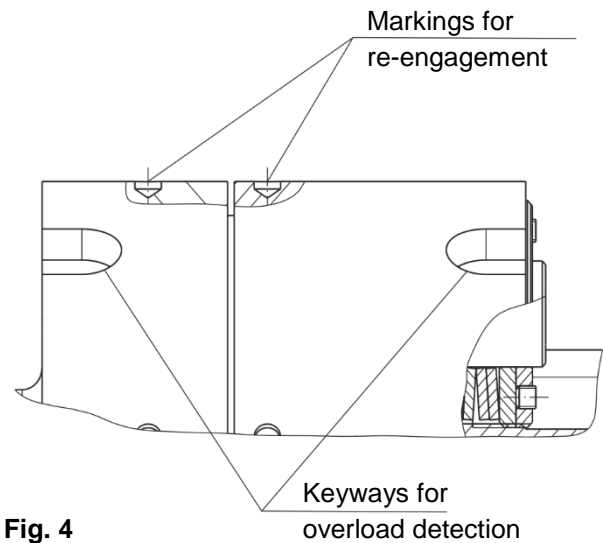

Fig. 4
The overload - i.e. the relative movement between the hub (1) and the pressure flange (5) - can be detected using the keyways of the two components (each 2 x 180° on the circumference, see Fig. 4 on page 9) which are aligned in operating condition, e. g. by means of speed monitors or optoelectronic sensors.
## Re-engagement (Figs. 4 and 5)
The marking bores on the outer diameters of the hub (1) and the pressure flange (5) must align with each other (Fig. 4).